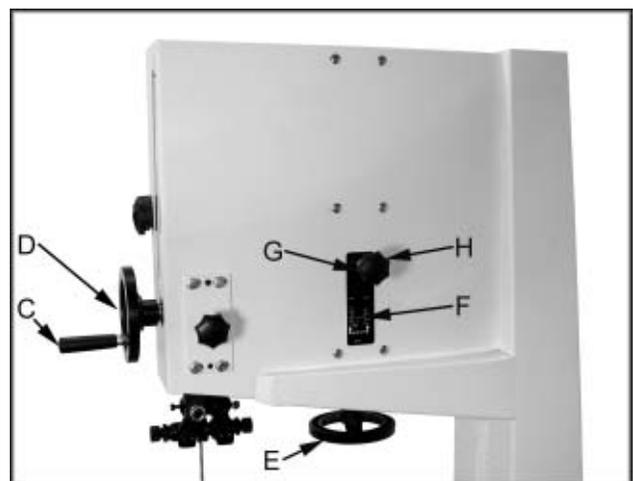

Fig. 2
3. Attach the handle (C, Fig. 2) to the handwheel (D, Fig. 2).
2. Turn blade tension hand wheel (E, Fig. 2) counter-clockwise to tension blade, and clockwise to loosen the tension. A gauge on the upper wheel slide bracket (F, Fig. 2) indicates the approximate tension according to the width of the blade. The JWBS-16 comes with a 3/4" blade so the tension should be set at 3/4" when using this blade.
3. If adjustment is necessary, loosen the wing nut (G, Fig. 2) at the top rear of the saw.
4. Adjust tracking by turning the knob (H, Fig. 2) in 1/4 turn increments. Rotate the wheel forward, and observe the position of the blade on the wheel. Rotating knob (H, Fig. 2) counter-clockwise should move the blade towards the front of the wheel. Rotating the knob clockwise should move the blade towards the back of the wheel.
6. Tighten the wing nut (G, Fig. 2).